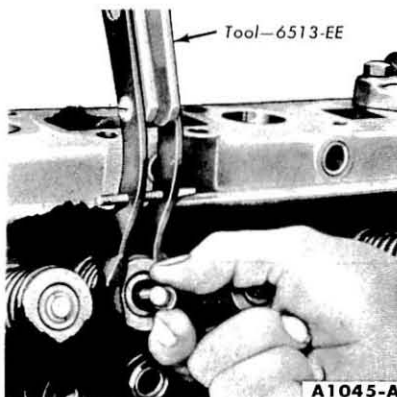

FIG. 18—Retainer Lock Removal or Installation
2. Compress the valve springs (Fig. 18). Remove the valve retainer locks and release the spring.
4. Compress the spring and install the retainer locks (Fig. 18).